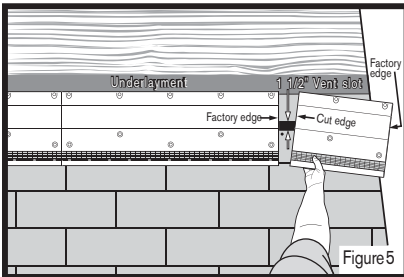

Figure 5
Step 7: Using the nails provided, hand-nail the InFlow® Vent in place using the built-in nail holes. Continue installing vents flush with each other from rake edge to rake edge. When installing the final vent, cut the non-rake edge of the vent (if necessary), to ensure a factory-finished edge is flush with the rake edge. See Figure 5.